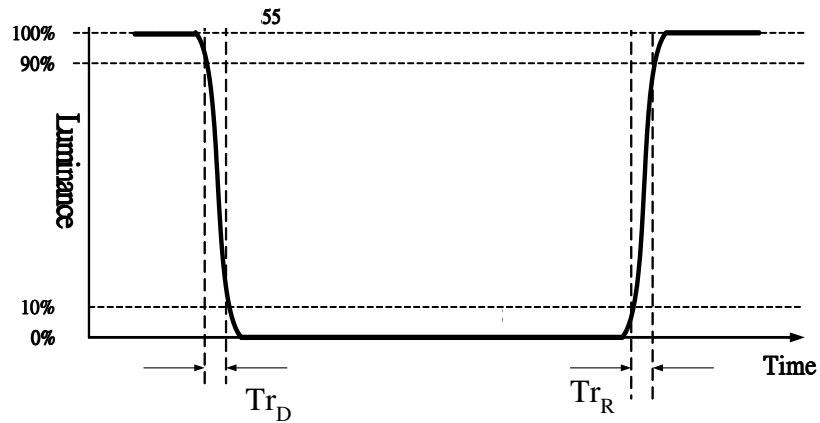

Fig.4-4 Response time
5. The response time is defined as the following figure and shall be measured by switching the input signal for 0%, 25%, 50%, 75%, 100% luminance. For additional information see Fig. 4-4.